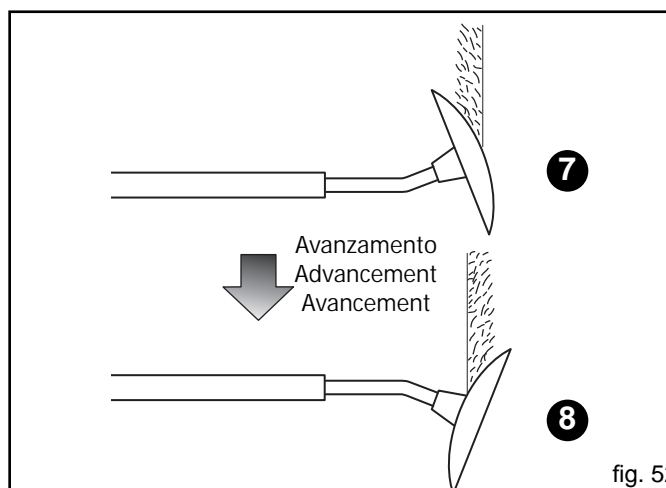

fig. 52
For normal soils the correct working position of the disc is that shown in Fig. 52 ref. (7); for strong soils turn it over as shown in ref. (8) Fig. 52.